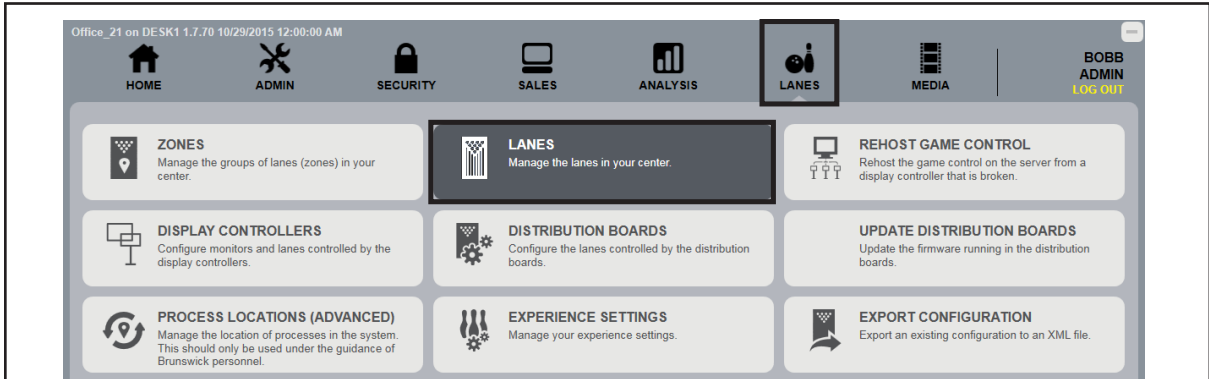

Figure 23. Sync Desk - Lanes - Lanes Screen
2. Sign in with manager/administrator credentials. Select the Lanes tab, then select Lanes. Refer to *Figure 23*.